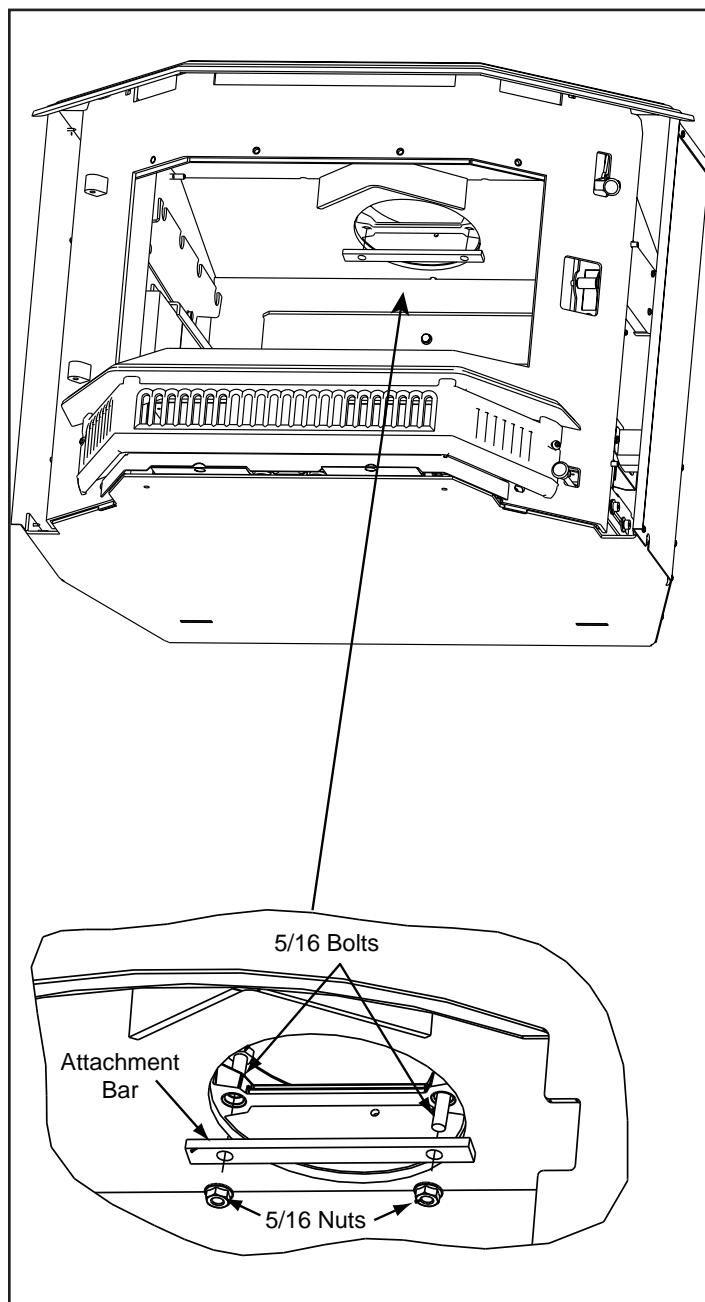

Figure 19.3
1. Once you have the appliance in place and secured, reach up through the flue opening and grab the attachment bar and pull down inside flue opening. **Figure 19.3**.